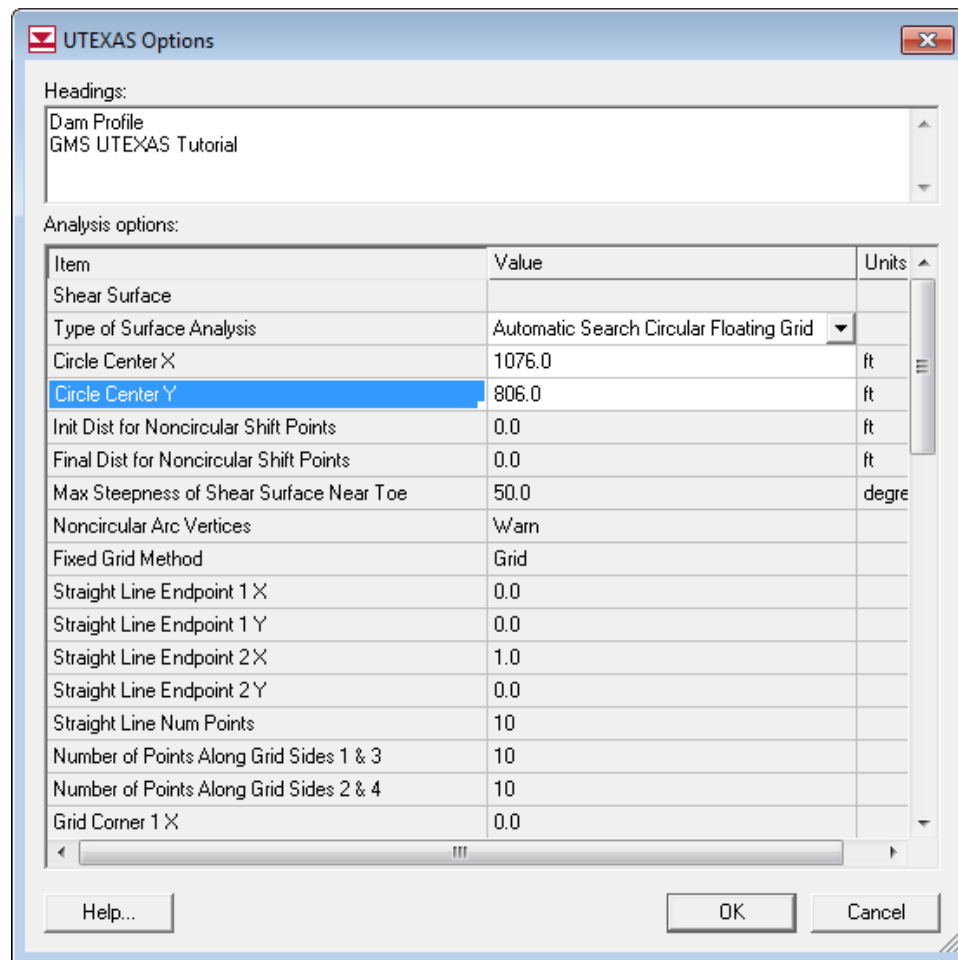
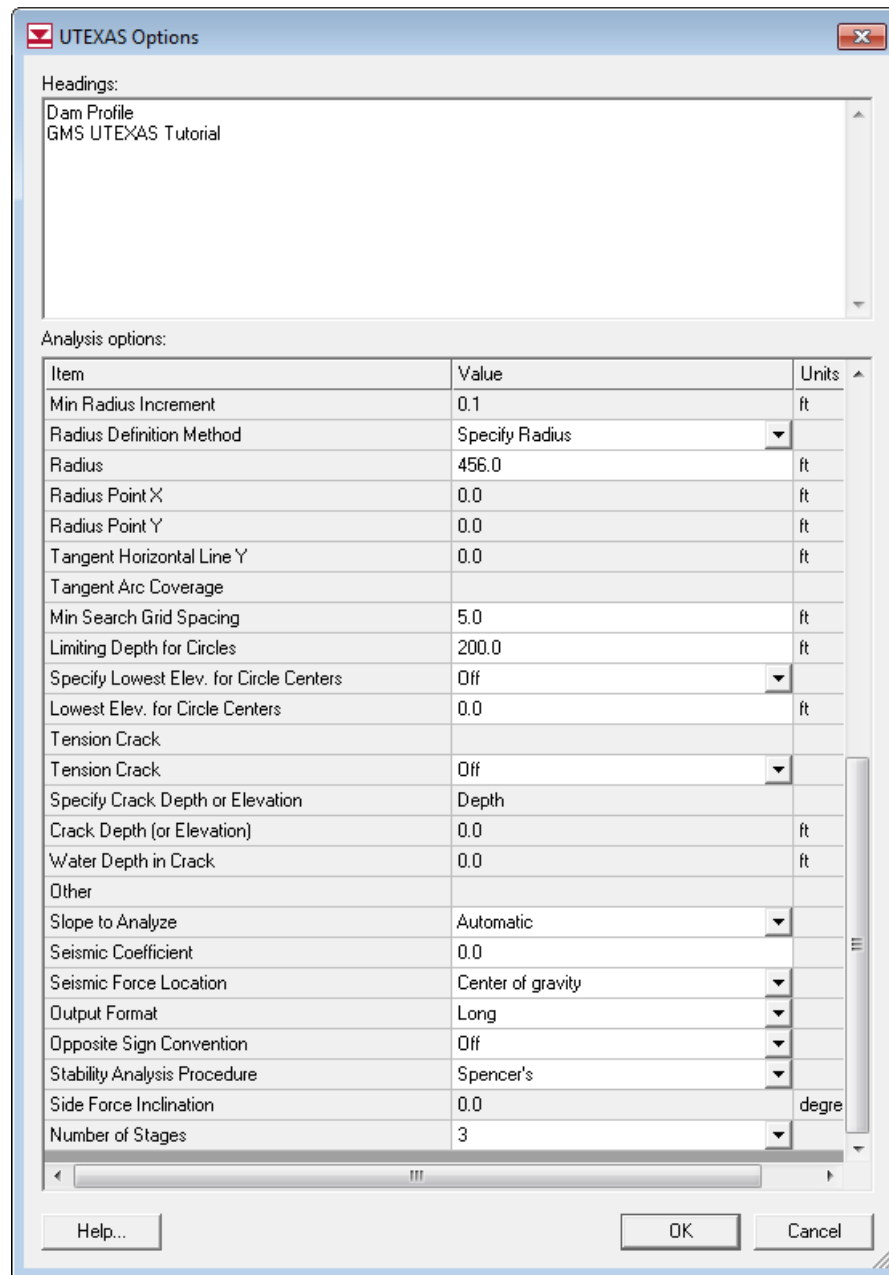

Figure 11 UTEXAS Analysis Options – Part I
Figure 12 UTEXAS Analysis Options – Part II
10. The options should match those shown in Figure 11 and Figure 12 below.